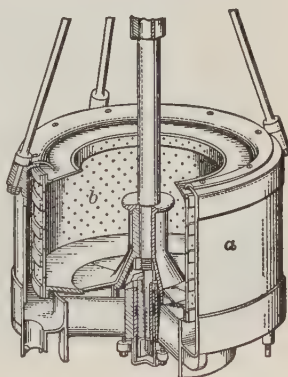

FIGURE 543.—CENTRIFUGAL FILTER.
**371. Applications of Centrifugal Force.**—The centrifugal force, which is the reaction to the centripetal force, does produce effects that can be easily observed. It pulls the water 'off the moving wheel, causes automobiles to skid as they turn corners too swiftly, and at times breaks moving fly wheels or emery wheels into dangerous fragments. Usefully applied, centrifugal force extracts water from wet sugar or chemicals placed in a perforated cylinder (Figure 543). Since a greater force acts upon heavy bodies than upon light ones,